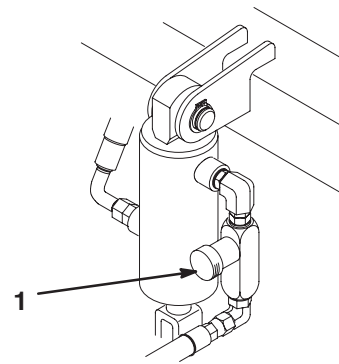

Figure 53
The cutting unit lift/drop circuit is equipped with a flow control valve (Fig. 53). This valve is preset at the factory at approximately 3 turns open, but an adjustment may be required to compensate for differences in hydraulic oil temperatures, mowing speeds, etc. If an adjustment is required, proceed as follows:
1. Raise the seat and locate the flow control valve (Fig. 53) mounted to the hydraulic cylinder for the center pull frame.